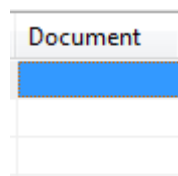

Figure 2. Column of type Document
- After all needed parameters are entered, click **Finish** button to create a column. The column of type document appears in the table (see Figure 2).